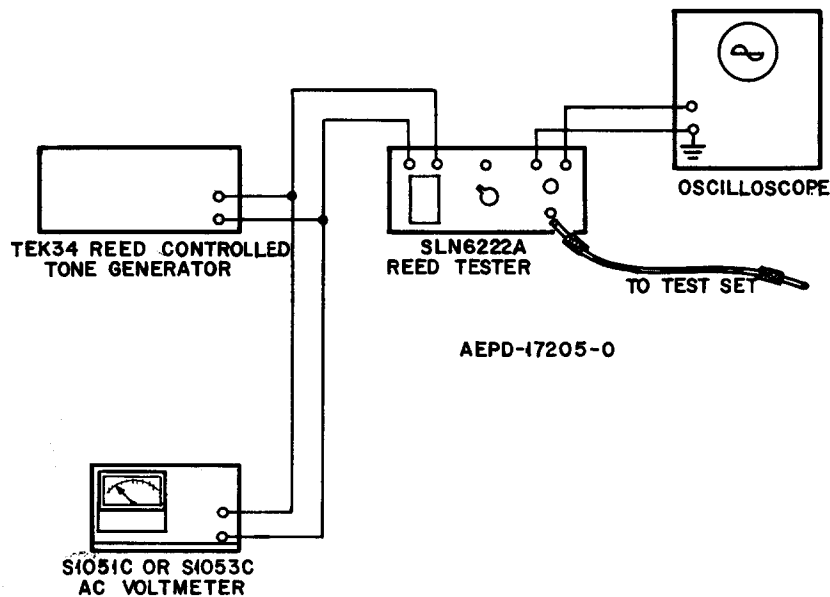

Figure 11. Group 4 Reeds Contact Duration Test Set Up
Step 1. Connect the test equipment as shown in Figure 11 or Figure 12 (alternate set up). The oscilloscope is used to indicate contact bounce, discontinuity and noise.
Step 5. Plug the "Vibrasender" resonant reed on the same frequency as the "Vibrasponder" resonant reed being tested into the tone generator (Figure 11), or set the audio oscillator (Figure 12) to